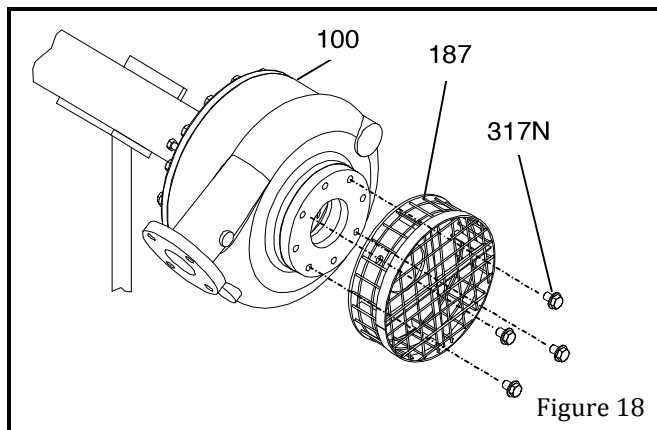

Figure 18
13. Remove the strainer (187) from the pump (Figure 18).